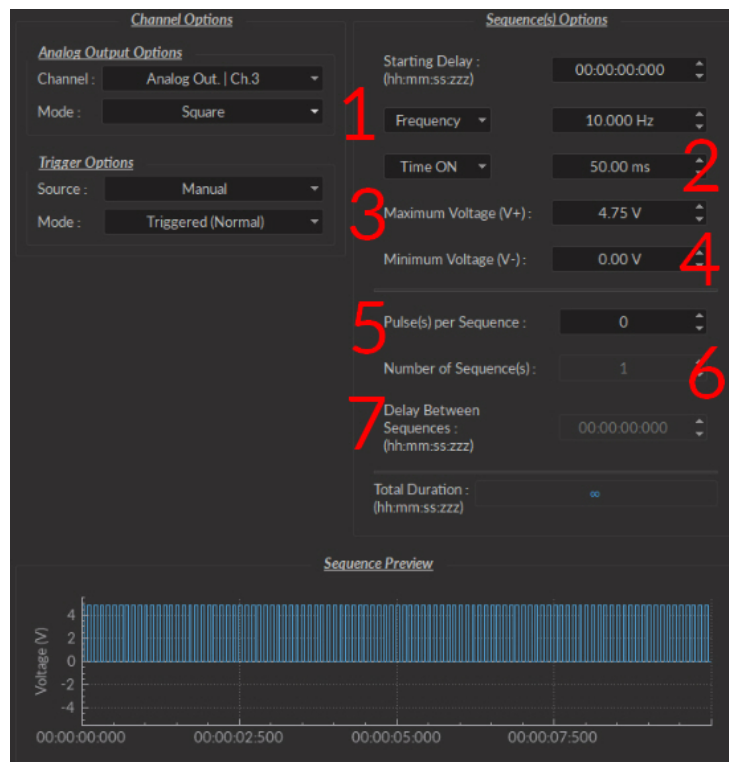

Figure 3.6: Channel(s) configuration window, Analog Output Square
- The **Square** channel mode (Fig. 3.6) creates a sequence of pulses with the minimum of the pulses at **V-** and the maximum of each pulse at **V+**. This includes all sequence options as the **CW** mode, with the following additions.
1. The **Frequency** (Fig. 3.6) sets the frequency (in Hz), which is the number of pulses per second. The frequency can also be changed to the **Period**. For example, a signal at 10 Hz (frequency) will output one pulse every 100 ms (period), whereas a signal at 0.5 Hz (frequency) will output one pulse every 2 seconds (period).
2. The **Time ON** (Fig. 3.6) defines the length of a single pulse. This time can also be converted to a **Duty Cycle**, which indicates the % of the period the pulse duration corresponds to.
3. The **Maximum Voltage (V+)** (Fig. 3.6) defines the maximum voltage of each pulse, in volts. The signal cannot go beyond +4.75 V.
4. The **Minimum Voltage (V-)** (Fig. 3.6) defines the minimum voltage of each pulse, in volts. The signal cannot go beyond -4.75 V.
5. The **Pulse(s) per sequence** (Fig. 3.6) set the number of pulses per sequence. If it is set to 0, the number of pulses will be infinite.
6. The **Number of sequence(s)** (Fig. 3.6) sets the number of times that the sequence will be repeated.
7. The **Delay between sequences** (Fig. 3.6) sets the delay between each sequence.